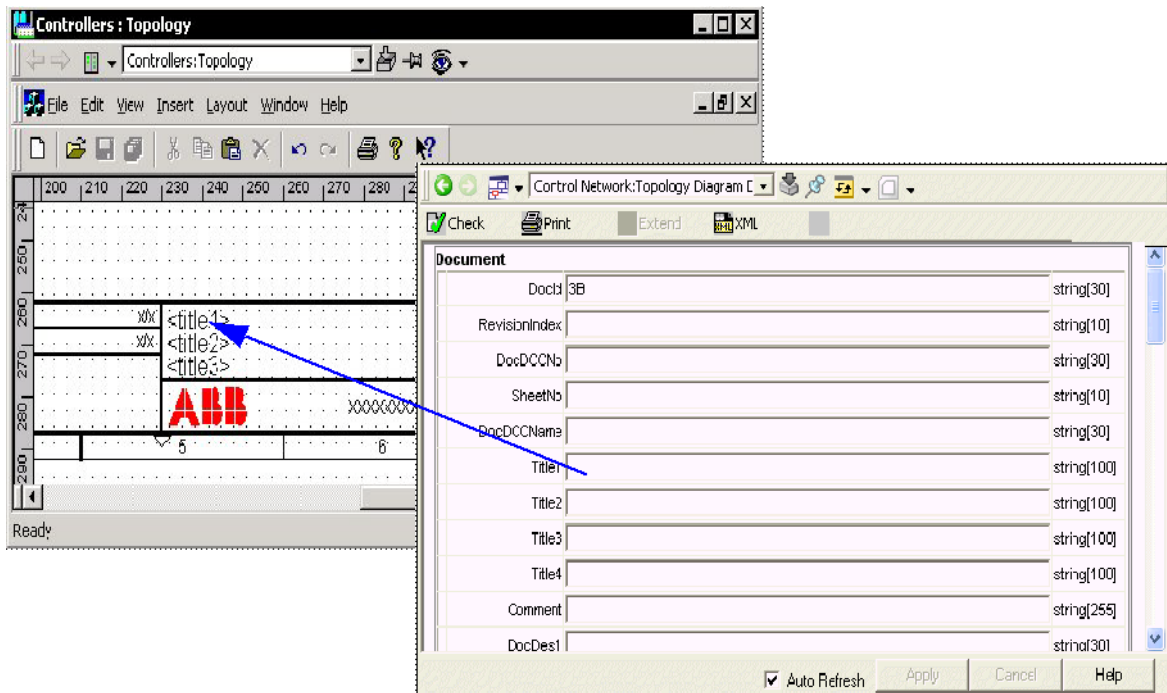

Figure 11. Footer Texts with References to Topology Diagram Document Properties
- Header/footer entries like author, document number, cannot be edited inside the diagram, but are referenced as aspect properties from a Topology Diagram Document aspect in the Object Type Structure, see Figure 11.
- Header/footer entries like author, document number, can be edited directly inside the diagram, but can also be referenced as aspect properties from another aspect, by default from a Topology Diagram Document aspect in the same object, see Figure 11.